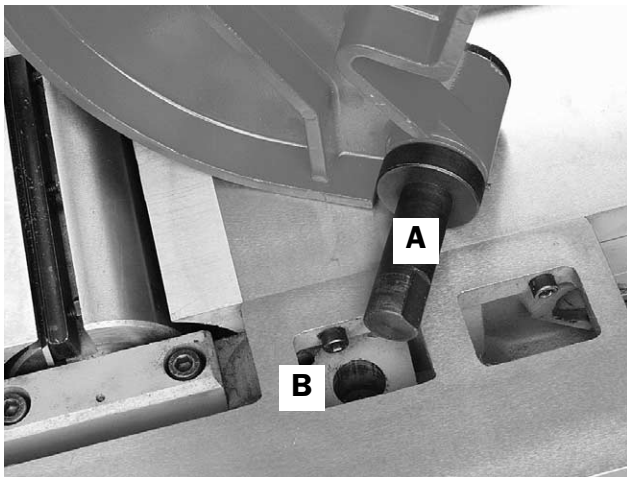

Fig. 3
The cutterhead guard is fitted by inserting the post Fig. 3 (A) into the hole Fig. 3 (B) and tightening the set screw.